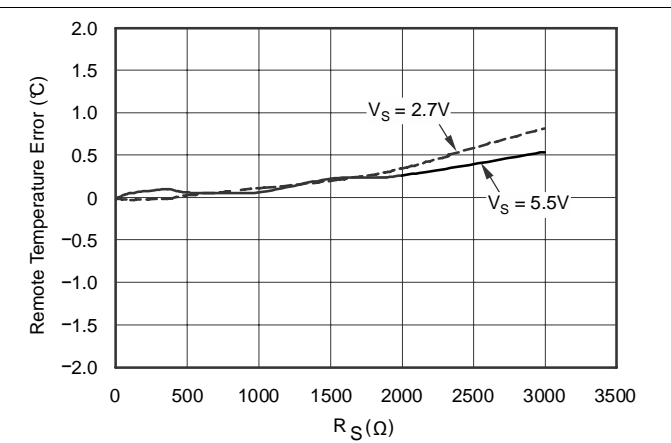
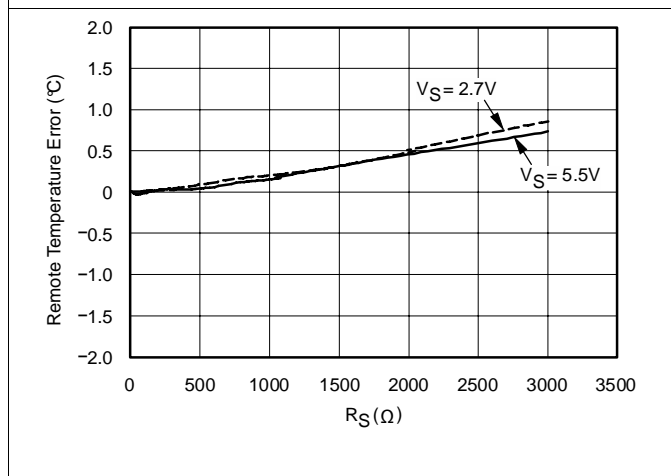

Figure 4. Remote Temperature Error vs Series Resistance (Diode-Connected Transistor, 2N3906 PNP)
Figure 5. Remote Temperature Error vs Series Resistance (GND Collector-Connected Transistor, 2N3906 PNP)
- (1) Diode-connected configuration provides better settling time. Transistor-connected configuration provides better series resistance cancellation. NPN transistors must be diode-connected. PNP transistors can either be transistor or diode-connected. TI recommends this layout for the MMBT3906LP and MMBT3904LP devices.
- (2)  $R_s$  (optional) must be  $< 1.5\text{ k}\Omega$  in most applications. Selection of  $R_s$  depends on specific applications; see the Filtering section.
- (3)  $C_{DIFF}$  (optional) must be  $< 1000\text{ pF}$  in most applications. Selection of  $C_{DIFF}$  depends on specific application; see the Filtering section and Figure 5.
See Figure 4 and Figure 5 for details on the effect of series resistance and power-supply voltage on sensed remote temperature error.